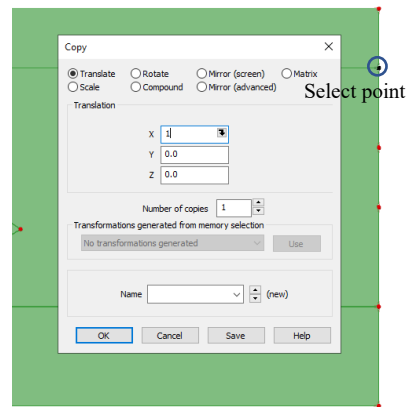

Figure 15: Copy point for phreatic surface defining groundwater
- Using **Geometry > Point > Copy...** set the X field to **1** and click **OK** (figure 15).